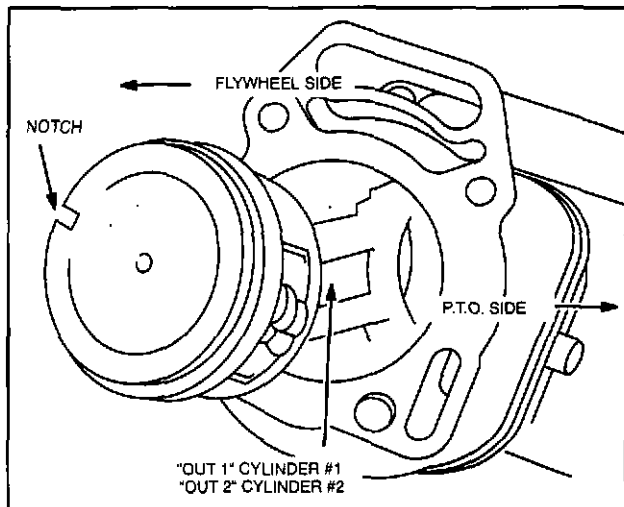

Fig. 12 - Piston Position
**NOTE:** Briggs & Stratton OHV-Twin engines use pistons with offset piston pin bores. When the notch on piston is facing toward the flywheel side of engine, the words "OUT-1" on the side of the connecting rod for cylinder No. 1 and "OUT-2" on the side of the connecting rod for cylinder No. 2 should face toward the P.T.O. side of the crankcase, Fig. 12.